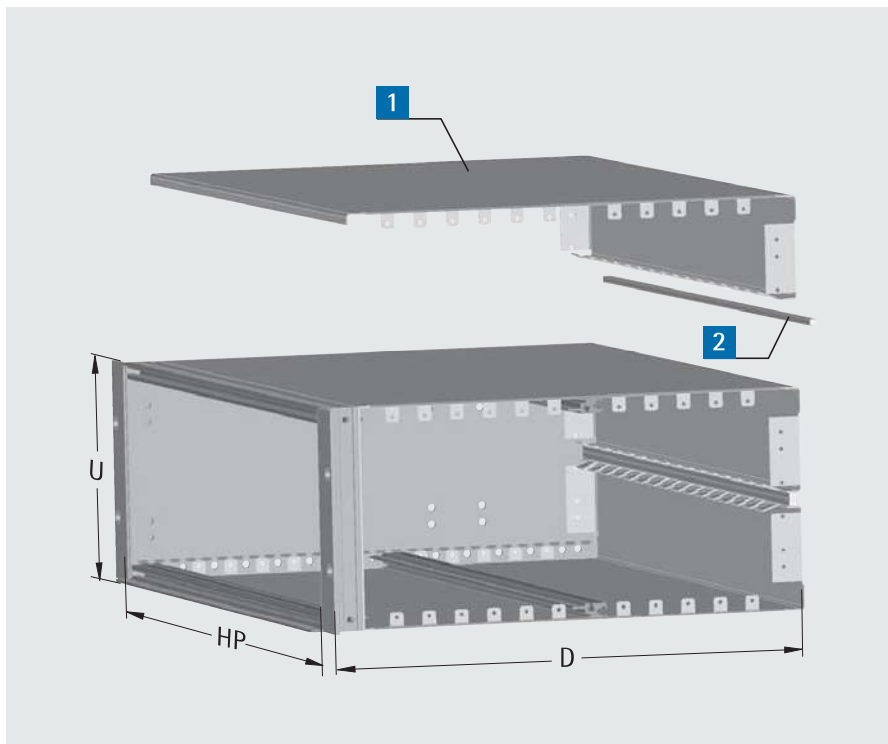

Fig. 1: integrated cable management bar with straps
- integrated cable management bar with straps (see fig. 1)